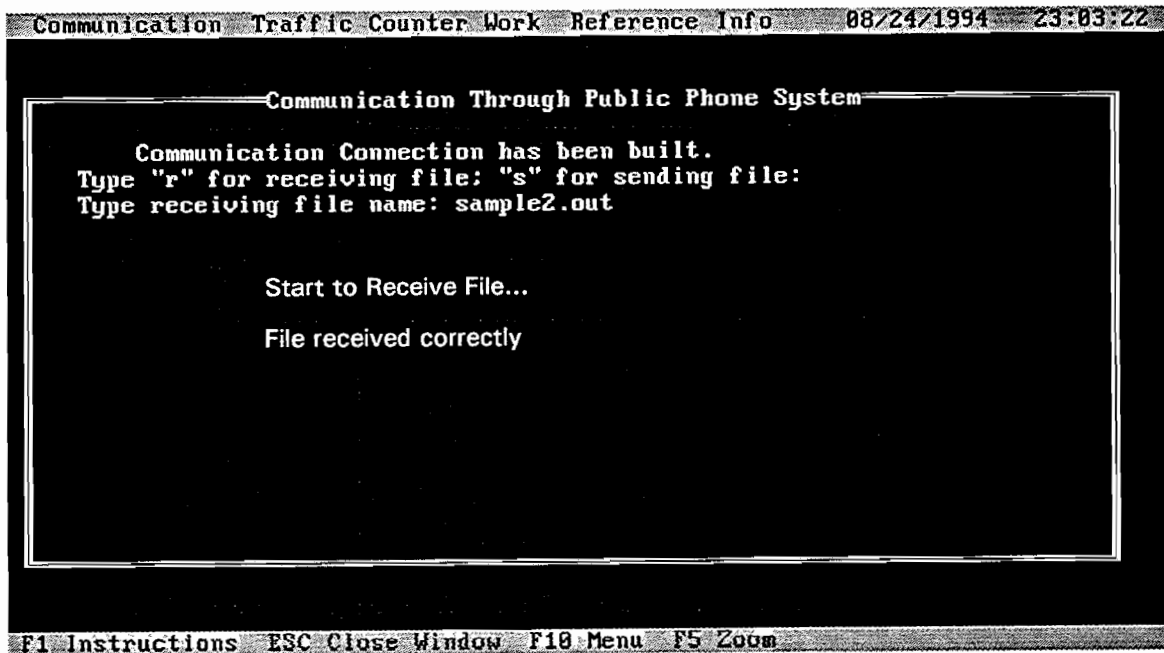

Figure 7.9 Receiving schedule file from TxDOT
7.2.3.3 Receiving a Schedule File from TxDOT. When the communication connection has been made, you will see the screen shown in Figure 7.9. At this stage, you can either receive a schedule file from TxDOT, or you can send a data file back to TxDOT. Figure 7.9 indicates that a schedule file has been received from TxDOT. Type "r" for receiving file and "sample2.out" for the file name of the schedule file you wish to receive from TxDOT. After typing the file name (remember to type the ".out" file name extension for all schedule files from TxDOT), hit the ENTER key. You will see the receiving file communication begin. A screen message will then